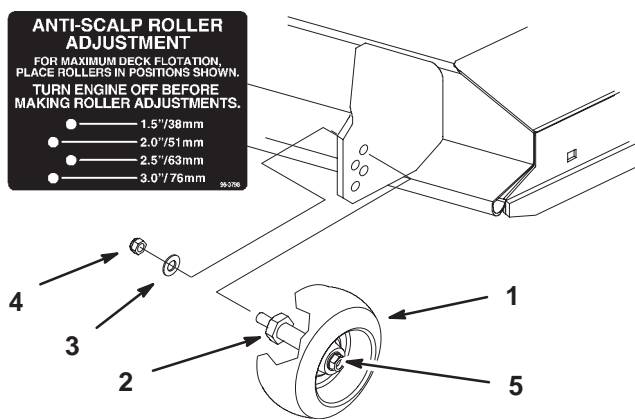

Figure 22
2. After adjusting height-of-cut remove flange nut and spring disk while holding stud with wrench (Fig. 22).
- Note:** Do not remove the wheel nut and washer (Fig. 22).
3. Select hole so gage wheel is positioned to the nearest corresponding height-of-cut desired (Fig. 22).
4. Reinstall the flange nut and spring disk. Torque to 40–45 ft.-lb. (54–61 N•m) (Fig. 22).